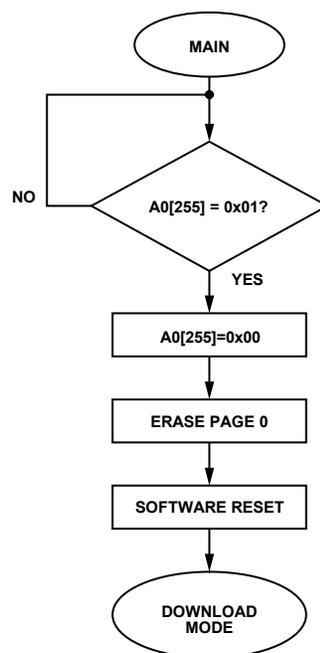

Figure 2. Flowchart
1. Send the command A0 W 0xFF 0x01 S via I²C. The part enters download mode automatically, as shown in Figure 2.